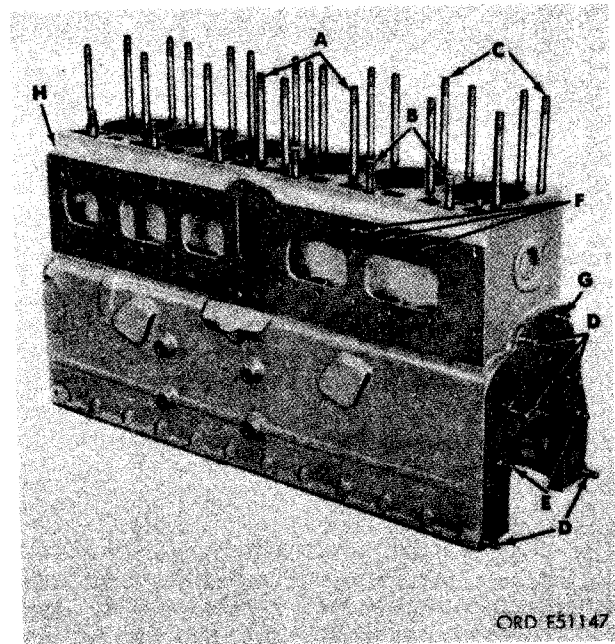

FIGURE 313. CYLINDER AND CRANKCASE STUDDING - LEFT REAR VIEW.
- (4) Figures 313 and 314 show stud location. Other studs referred to in Table III are located on various illustrations as indicated in table.